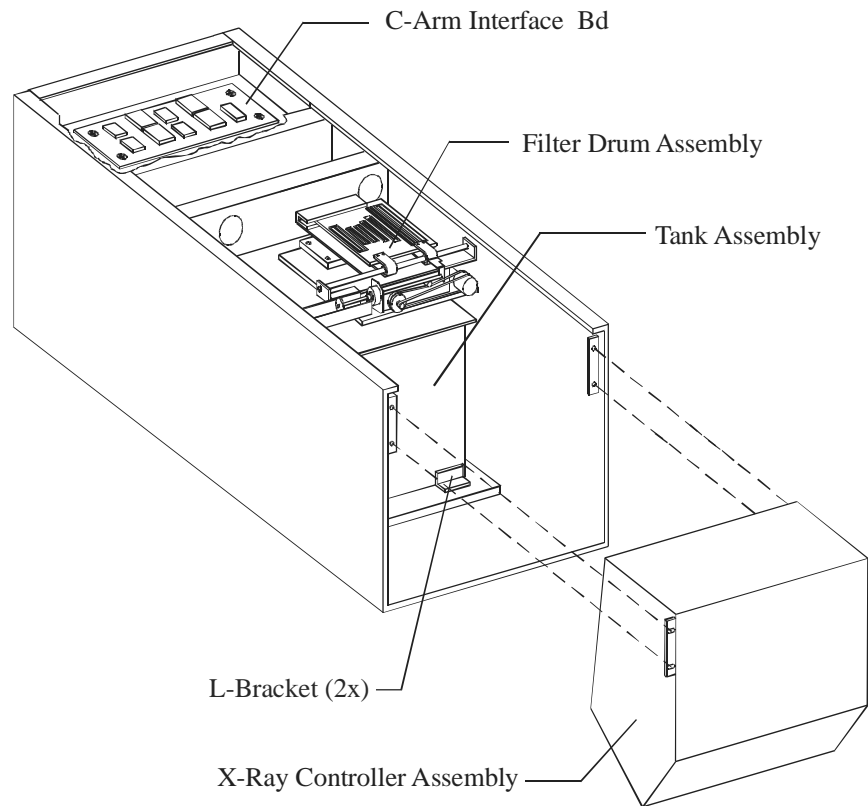
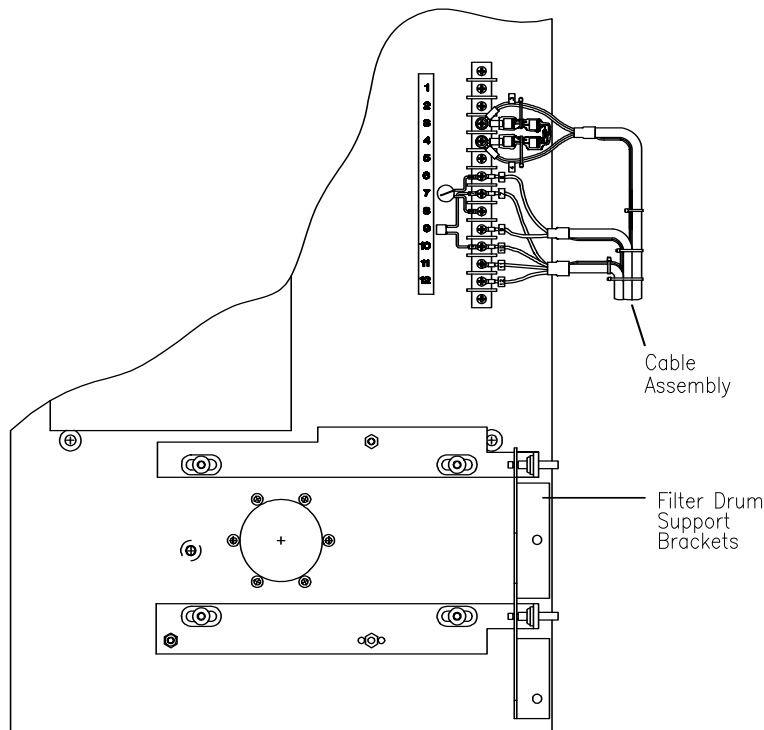
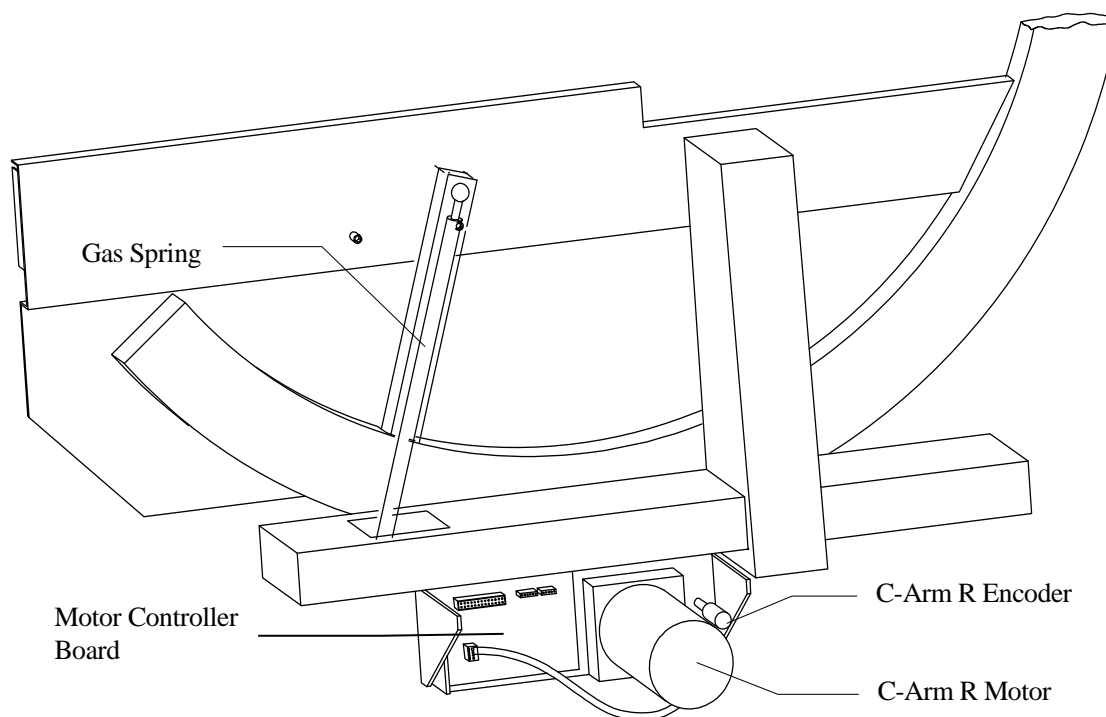
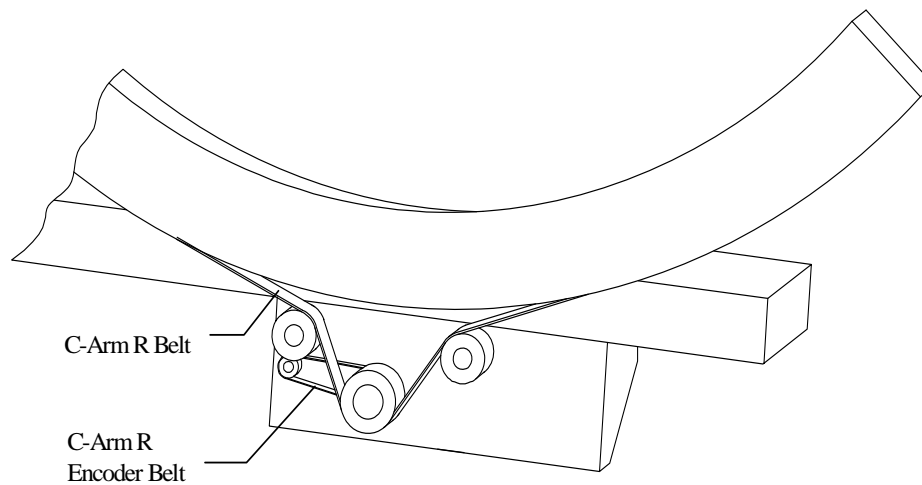

Figure 5-7. Lower C-Arm FRUs
Figure 5-8. Top View of Tank
Figure 5-9. C-Arm R FRUs (Outside View)
Figure 5-10. C-Arm R FRUs (Inside View)
This section describes how to remove and replace the C-arm Interface Board, X-Ray Controller (XRC), Tank, and Filter Drum Assemblies located on the lower C-arm (see Figure 5-7), and Arm rotation FRUs (A & SL only).
To remove and replace the C-Arm Interface Board, refer to Figure 5-7 and follow the procedure below:
4. Remove the 4 Phillips screws holding the XRC (see Figure 5-7).
To remove and replace the Filter Drum Assembly, refer to Figure 5-7 and do the following:
6. Remove the 4 Phillips screws holding the XRC (see Figure 5-7).
To remove and replace the Tank Assembly, refer to Figure 5-7 and Figure 5-8 and follow the procedure below:
12. Remove the cable assembly from the old tank and install it on the new tank (see Figure 5-8).
13. Remove the Filter Drum support brackets from the old tank and install on the new tank (see Figure 5-8).
This section describes how to remove and replace the Arm R (Rotate) FRUs located on the right side of the lower C-arm (see Figure 5-9 and Figure 5-8).
To remove and replace the Motor Controller Board refer to Figure 5-9 and follow the procedure below:
To remove and replace the Arm R Belt refer to Figure 5-9 and Figure 5-10, and follow the procedure below:
6. Remove the belt from the motor pulleys. Access the pulleys from the left side of the Scanner looking under the C-arm (see Figure 5-10).
To remove and replace the Arm R Motor refer to Figure 5-9 and Figure 5-10, and follow the procedure below:
4. Remove the belt from the motor pulleys. Access the pulleys from the left side of the Scanner looking under the C-arm (see Figure 5-10).
It is not necessary to remove any covers to remove and replace either Gas Spring. Refer to Figure 5-9 and follow the procedure below: